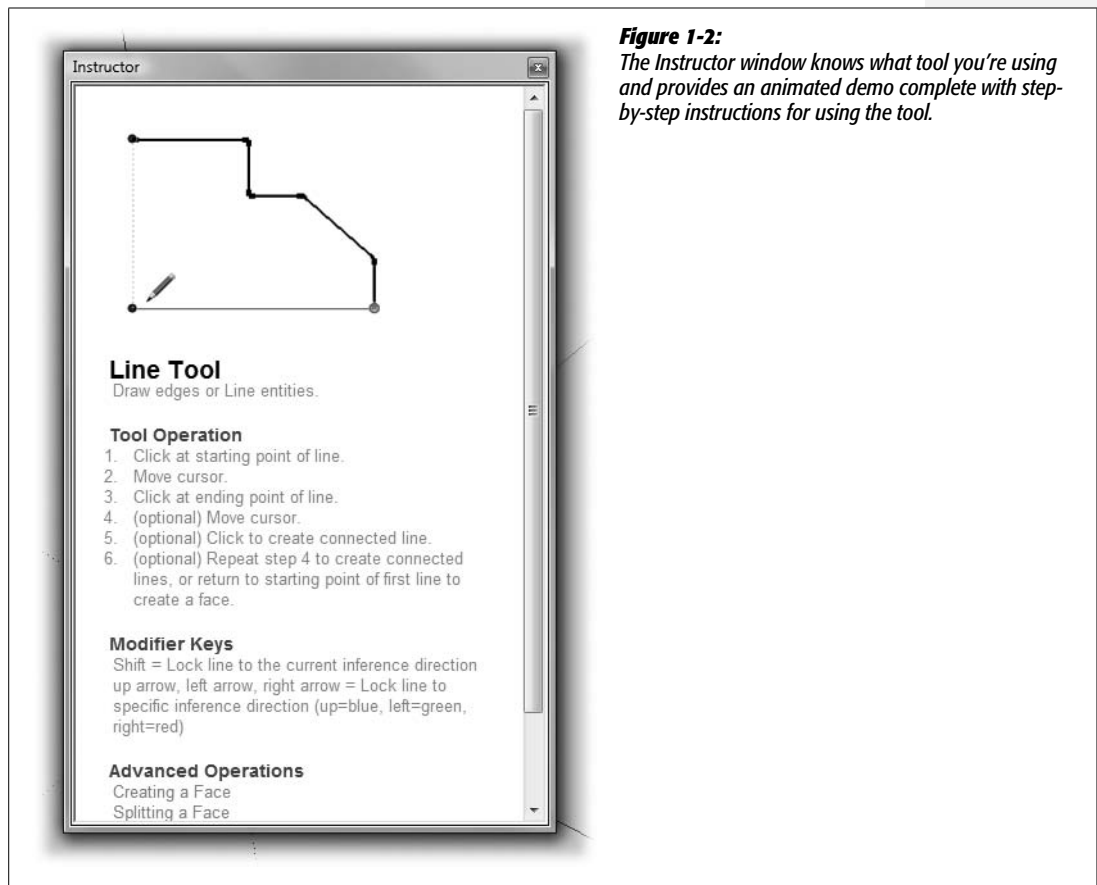

Figure 1-2:
The other window that appears when you first start SketchUp is the Instructor window (Figure 1-2). This clever feature provides quick visual and written tips on how to use whatever tool you’ve selected. When you’re first starting out, the Instructor tips can be pretty helpful. If you’ve had enough, you can close the window by clicking its close button. (You can always bring it back with Window → Instructor. Use Help → Welcome to SketchUp to show the welcome window.)
- **Status bar.** In the lower-left corner is the status bar. Like a friend of few words, the status bar's Hint tool gives you facts related to the tool and job at hand. If you need a hint about what to do next, look to this corner. For more verbose instructions, click the question-mark button to open the Instructor window (Figure 1-2).